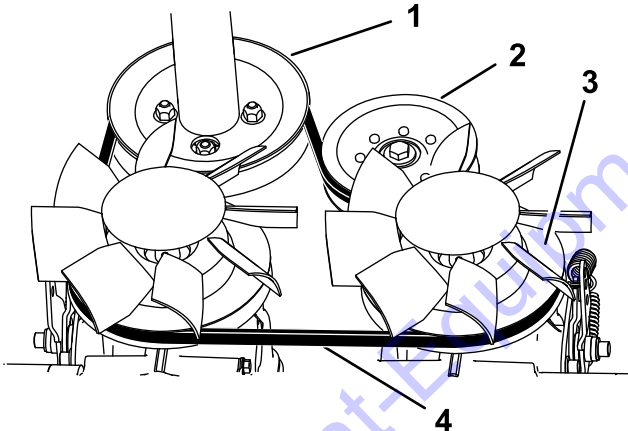

Figure 45
9. Route the new belt around the engine pulley and 2 transmission pulleys (Figure 45).